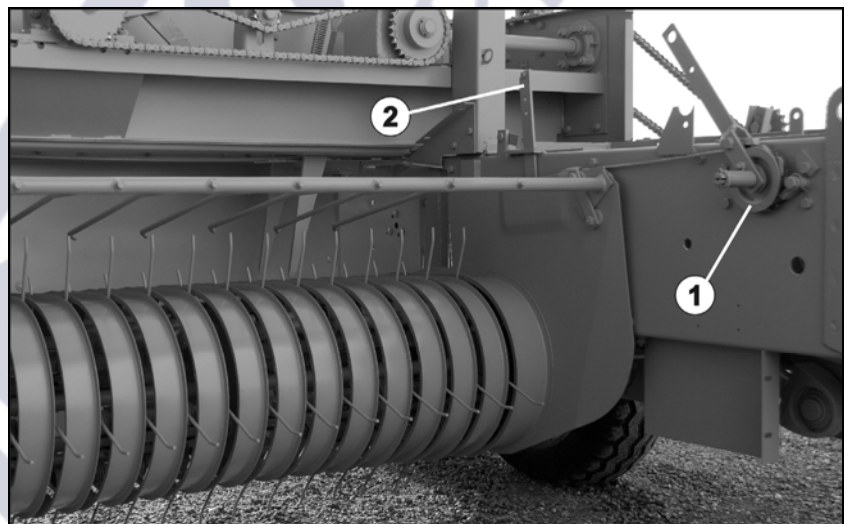

Fig. 5
2. Adjust the height from the ground of the picker in relation to the material to collect and the type of soil on which to operate the baler by using the ratchet 1 shown in figure 5 after releasing the rod 2 shown in Fig. 5.